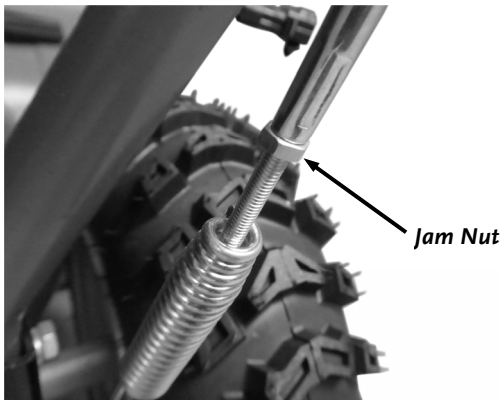

Figure 10
7. Lift the Plastic Covers and check the Jam Nuts on the Auger Control Cable and Drive Control Cable to ensure they are tight (**Figure 10**). Tighten as needed using a 6mm Wrench to hold the Cable and an 8mm Wrench to tighten the Nut.